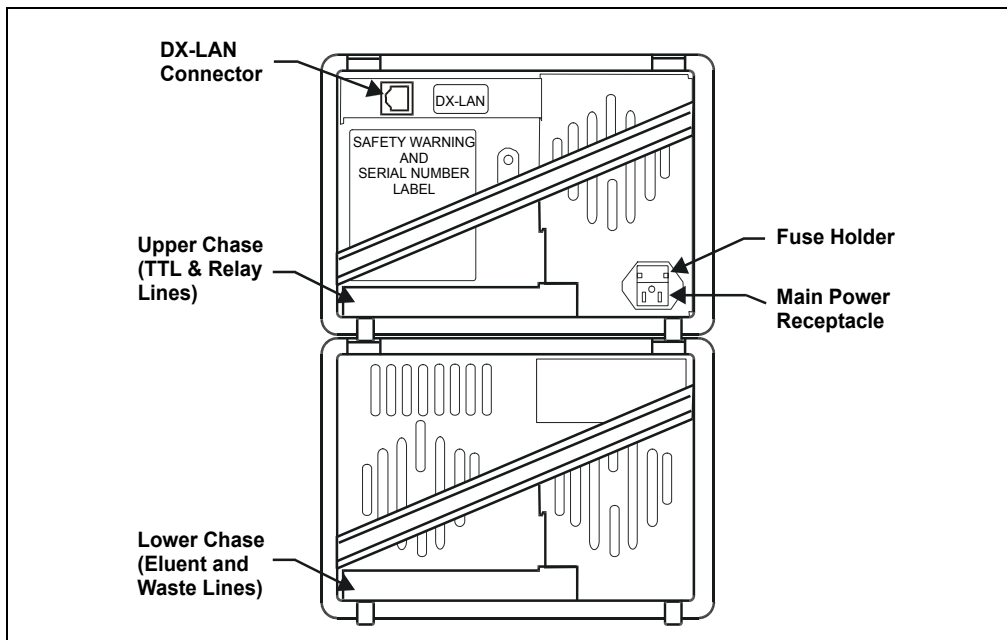

Figure B-1. IS25 Rear Panel Connections
To implement: Connect a modular power cord (IEC 320 C13) from the IS25 main power receptacle (see Figure B-1) to a grounded, single-phase power source. Use the IS25 power switch actuator to turn the pump on and off.
To implement: Locate one of the IEC jumper cables (P/N 960748) provided in the LC30 Ship Kit. Connect the jumper cable from the IS25 main power receptacle (see Figure B-1) to an IEC auxiliary receptacle on the LC30 rear panel. Leave the IS25 power switch on continuously and use the LC30 main power switch to turn the pump on and off.
1. Route the RJ-11 serial cable from the rear of the LC30 Chromatography Oven through the IS25 upper chase (see Figure B-1). Connect the cable to the **LC COMM** connector in slot 1 of the pump electronics chassis (see Figure B-2).
Route the electronics injection valve cable from the rear of the LC25 Chromatography Oven through the IS25 upper chase (see Figure B-1). Connect the cable to the **LC AIR** connector in slot 1 of the pump electronics chassis (see Figure B-2).
1. Route the leak sensor cable from the rear of the LC10 Chromatography Organizer or LC20 Chromatography Enclosure through the IS25 upper chasis (see Figure B-1). Connect the cable to the **LC LEAK** connector in slot 1 of the pump electronics chassis (see Figure B-2).
3. Connect the other end of the cable into the 10BASE-T DX-LAN connector on the IS25 rear panel (see Figure B-1).